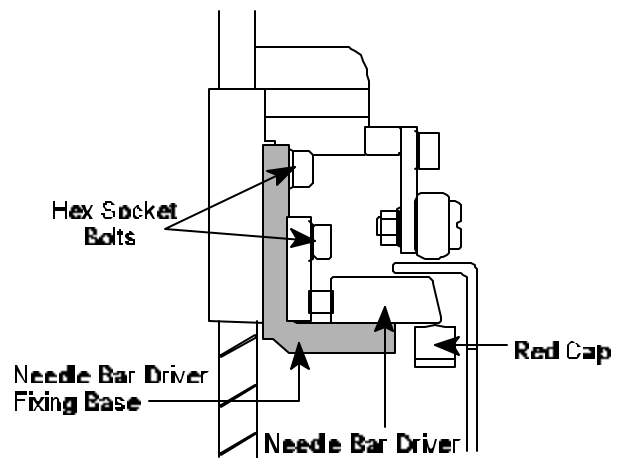

Figure 4
- Using 3 mm Allen Wrench, **loosen** top and bottom hex socket bolts on Needle Bar Driver Fixing Base. See Figure 4.